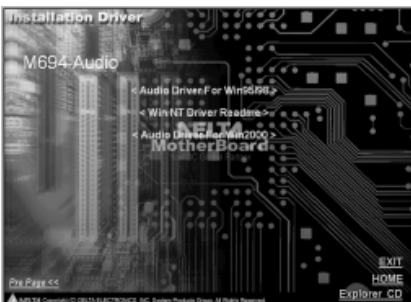
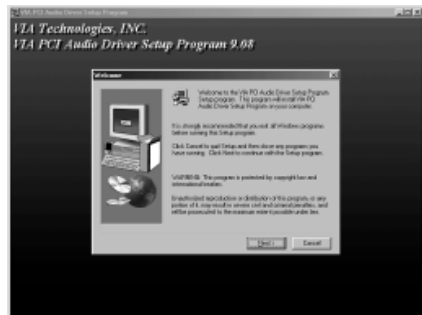
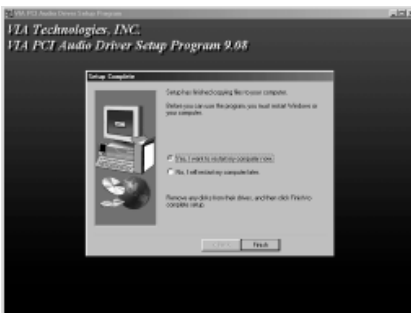

Figure 11
Figure 12
Figure 13
- Click “**Audio Driver**” on the Figure 2, the screen will appear Figure 11. (Install the Audio driver from sub-folders for Windows 95/98, NT4.0 and Win 2000).
- Click “**Audio Driver For Win95/98**” on the Figure 11, the screen will appear Figure 12. The installation program will now guide you through the rest of the installation process. When completed, the screen will appear Figure 13. You will be prompted to reboot, Click [**Finish**] to reboot and complete the installation.